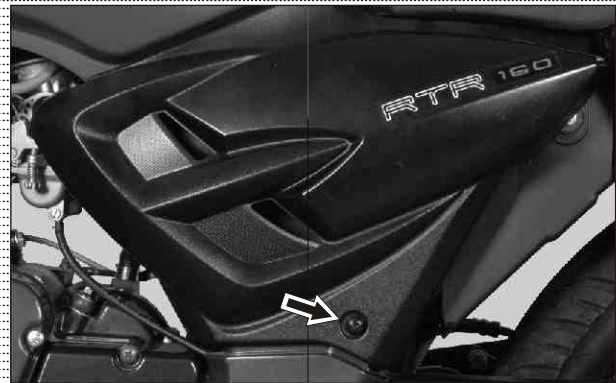

Fig. 2.22
- Loosen and remove (M6X16 - 1 no.) CRR pan head screw from cover frame L mounting. (Fig. 2.22)